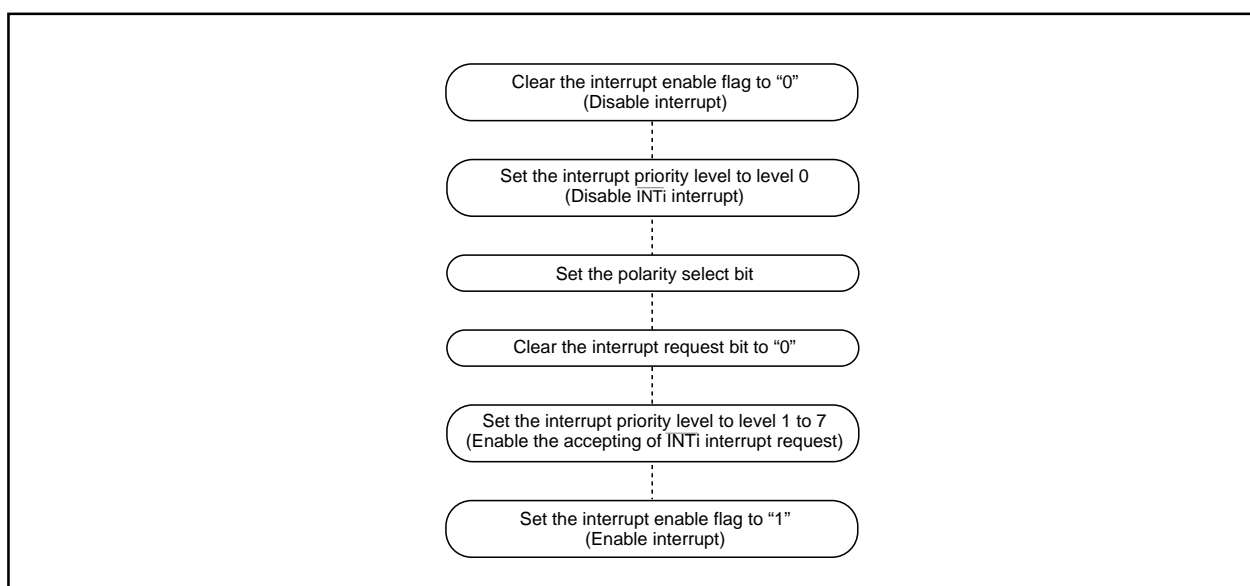

Figure DD-13. Switching condition of  $\overline{\text{INT}}$  interrupt request
**(2) Setting the stack pointer**
**(3) External interrupt**
- When the polarity of the  $\overline{\text{INT}}_0$  through  $\overline{\text{INT}}_5$  pins is changed, the interrupt request bit is sometimes set to "1". After changing the polarity, set the interrupt request bit to "0". Figure DD-13 shows the procedure for changing the  $\overline{\text{INT}}$  interrupt generate factor.